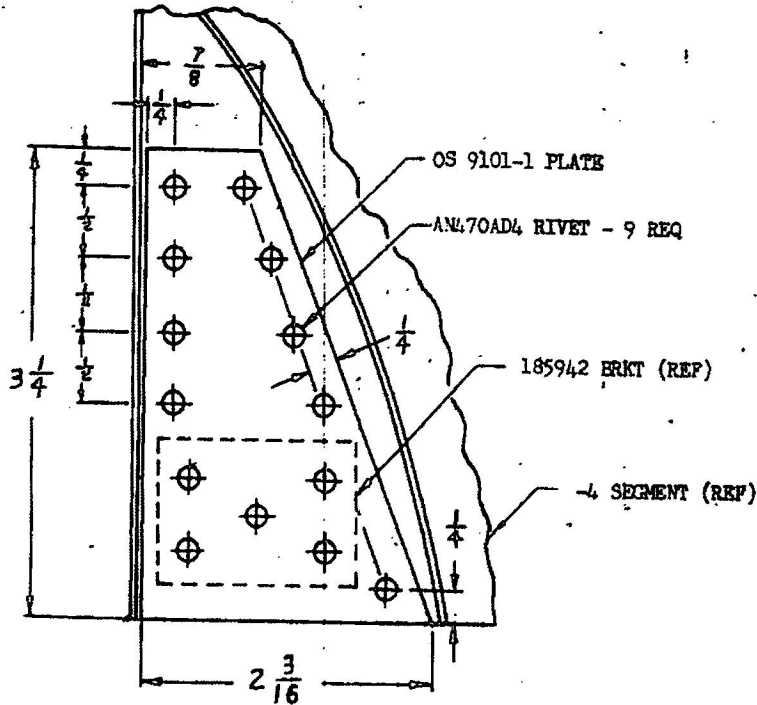

FIGURE 1
- (a) Former rings that have cracks in the 185940-3 or -4 segment or the 804-185940-3 or -4 segments at the 185942 bracket location shall be repaired as shown in Figure 1 of this specification.